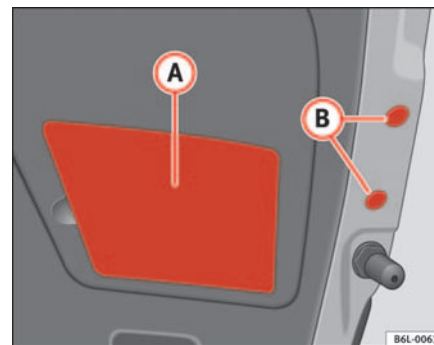

Fig. 161 Rear light on tailgate
- Remove the plastic cover **(A)** ⇒ page 221, fig. 161 and the plastic caps **(B)** ⇒ page 221, fig. 161 carefully levering with the flat part of a screwdriver and taking special care not to scratch the paintwork.